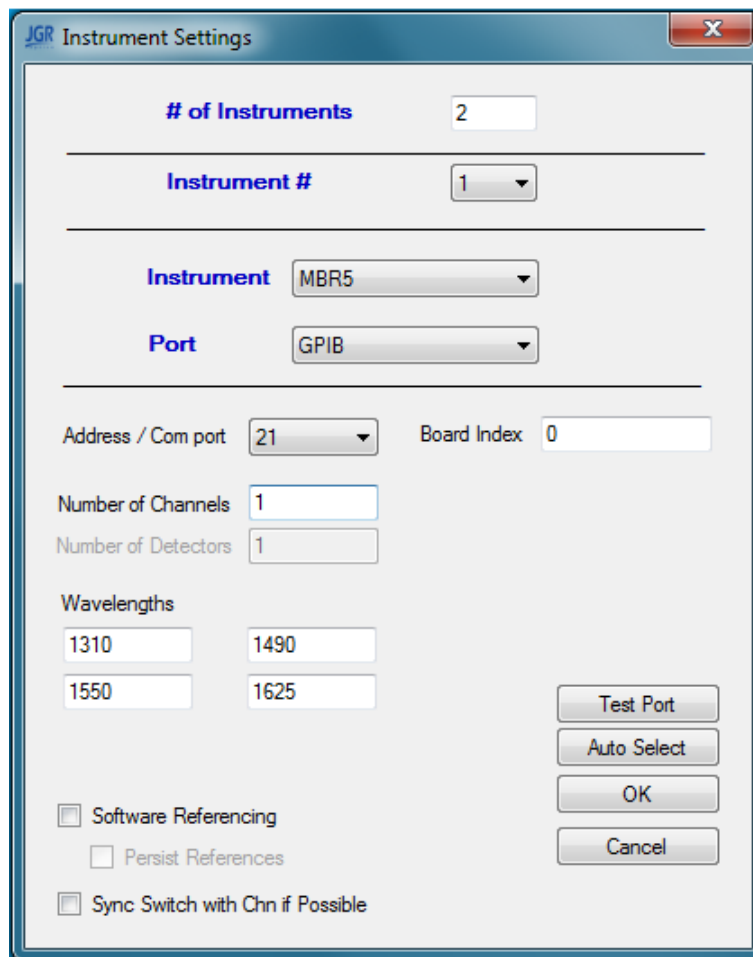
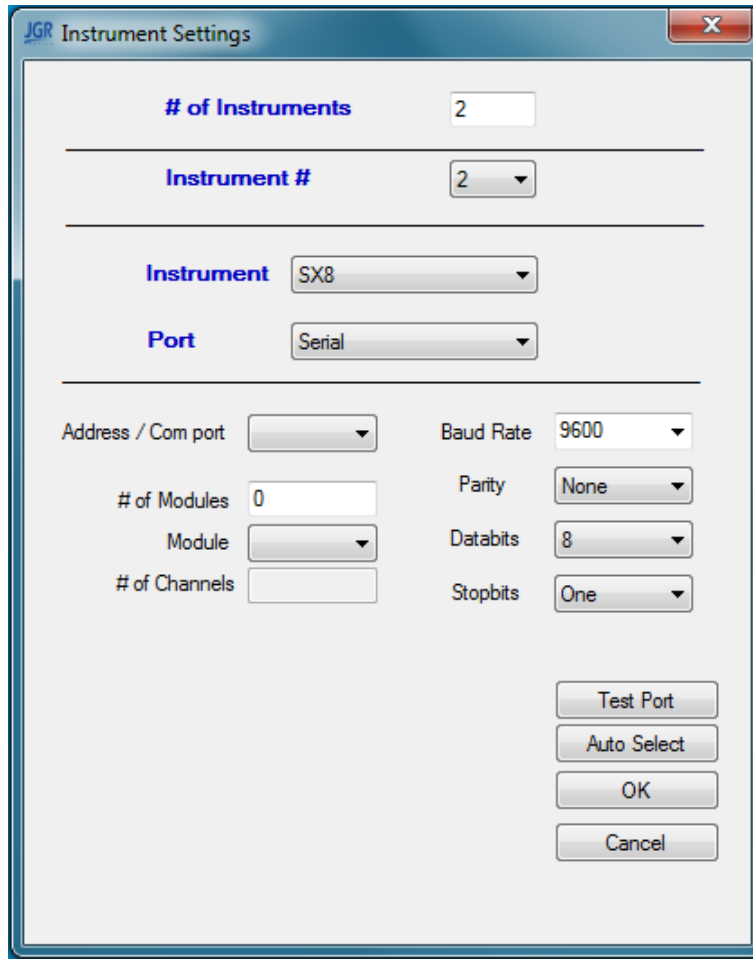

Figure 4.1: The Instrument Settings for an MBR5 meter via GPIB.
Figure 4.2: The Instrument Settings for an SX8 switch via serial port.
- To set up instruments, first enter the Instrument Settings window through the Settings Menu or by pressing Ctrl+I (Fig. 4.1 and Fig. 4.2).